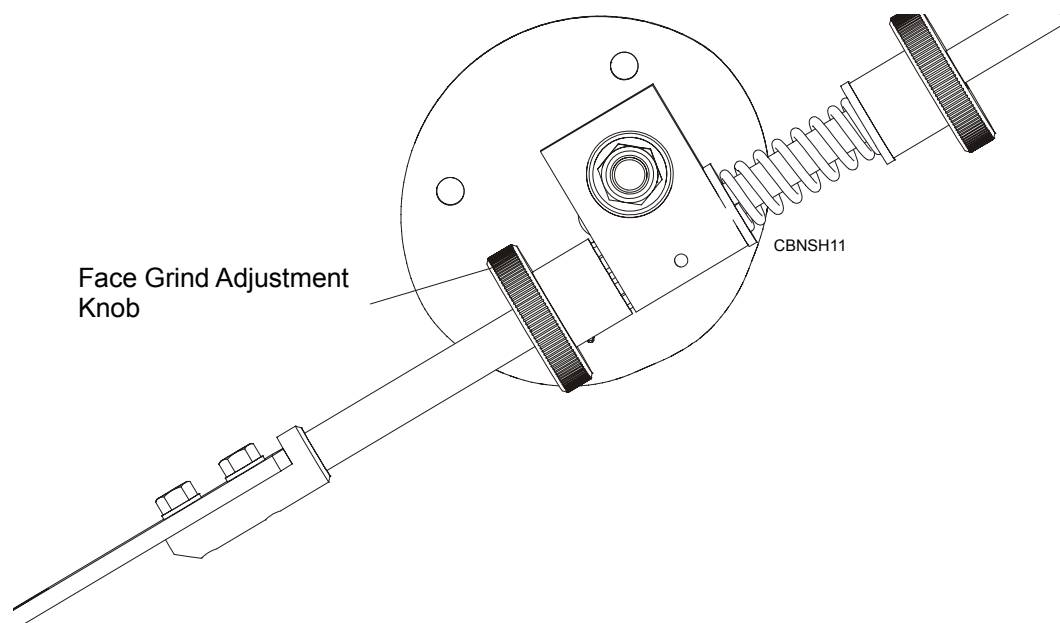

FIG. 2-8
**See Figure 2-8.** If the face grind is too light, turn the face grind adjustment knob out away from the other knob. If the face grind is too heavy, turn the adjustment knob in toward the other knob.